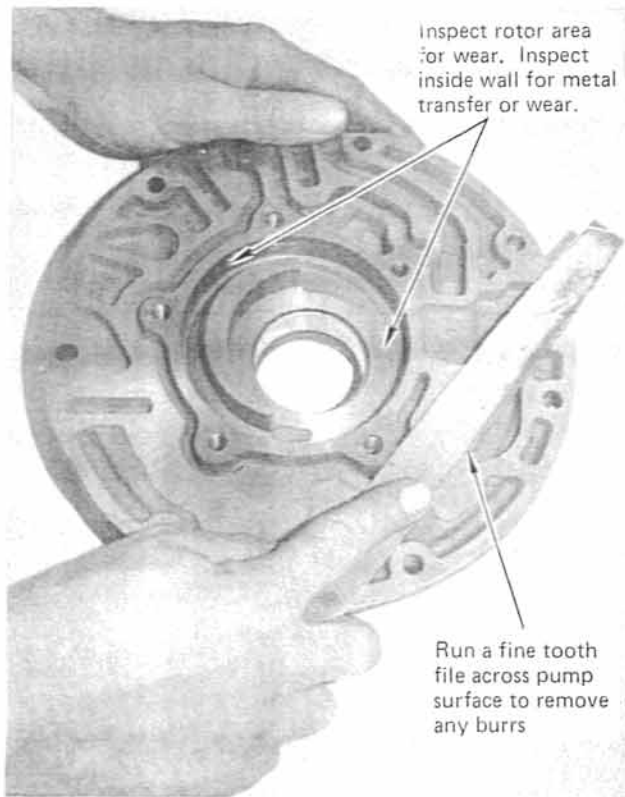
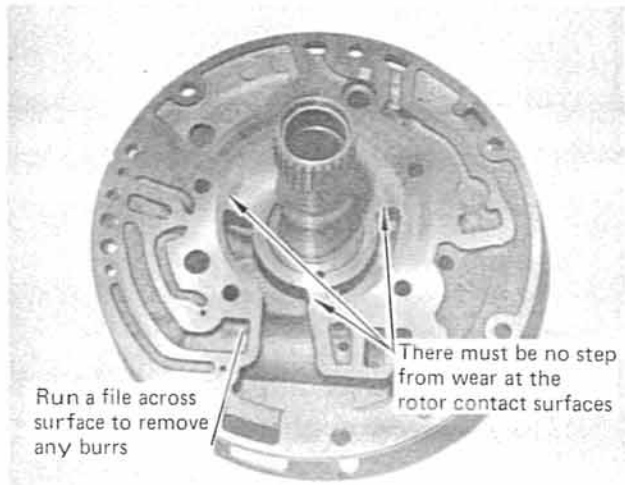
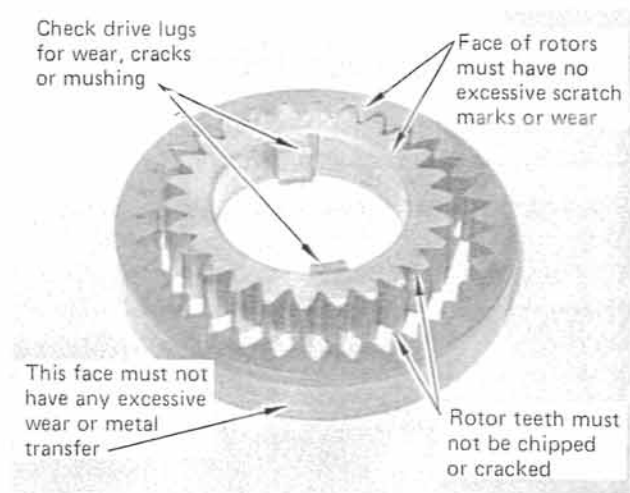
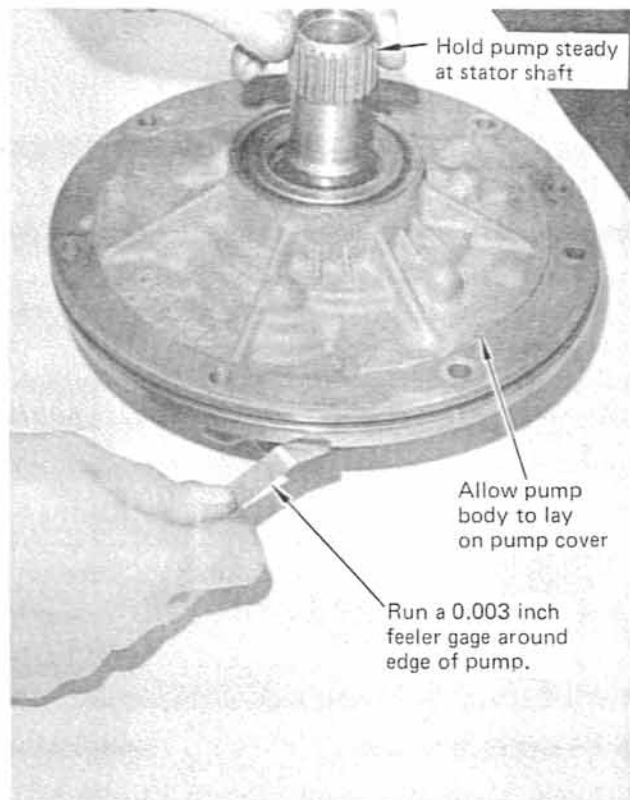

FIGURE 33
FIGURE 34
FIGURE 35
FIGURE 36
**STEP 1.** Inspect oil pump body for damage. The area where the pump rotors ride should have no excessive wear. (See Fig. 33) Some scratch marks are normal. The rotor face of the pump cover should have no step at any point where the rotors ride. (See Fig. 34) The rotors themselves should have clean faces and the outer edge of the large rotor should show no metal transfer or wear. (See Fig. 35)
**STEP 2.** Use a large flat fine-tooth file to remove any high spots on the face of the body and cover. (See Fig. 33) Clean the pump halves in solvent to remove any metal particles. Lay the mating surface of the pump body on the upright cover and run a 0.003 inch feeler gage around the edge. (See Fig. 36) The gage should not find any large gaps greater than 0.003 inch. If the mating surfaces vary excessively check for burrs, nicks or high spots which may be causing the problem. Excessive warpage indicates the pump will have to be replaced.